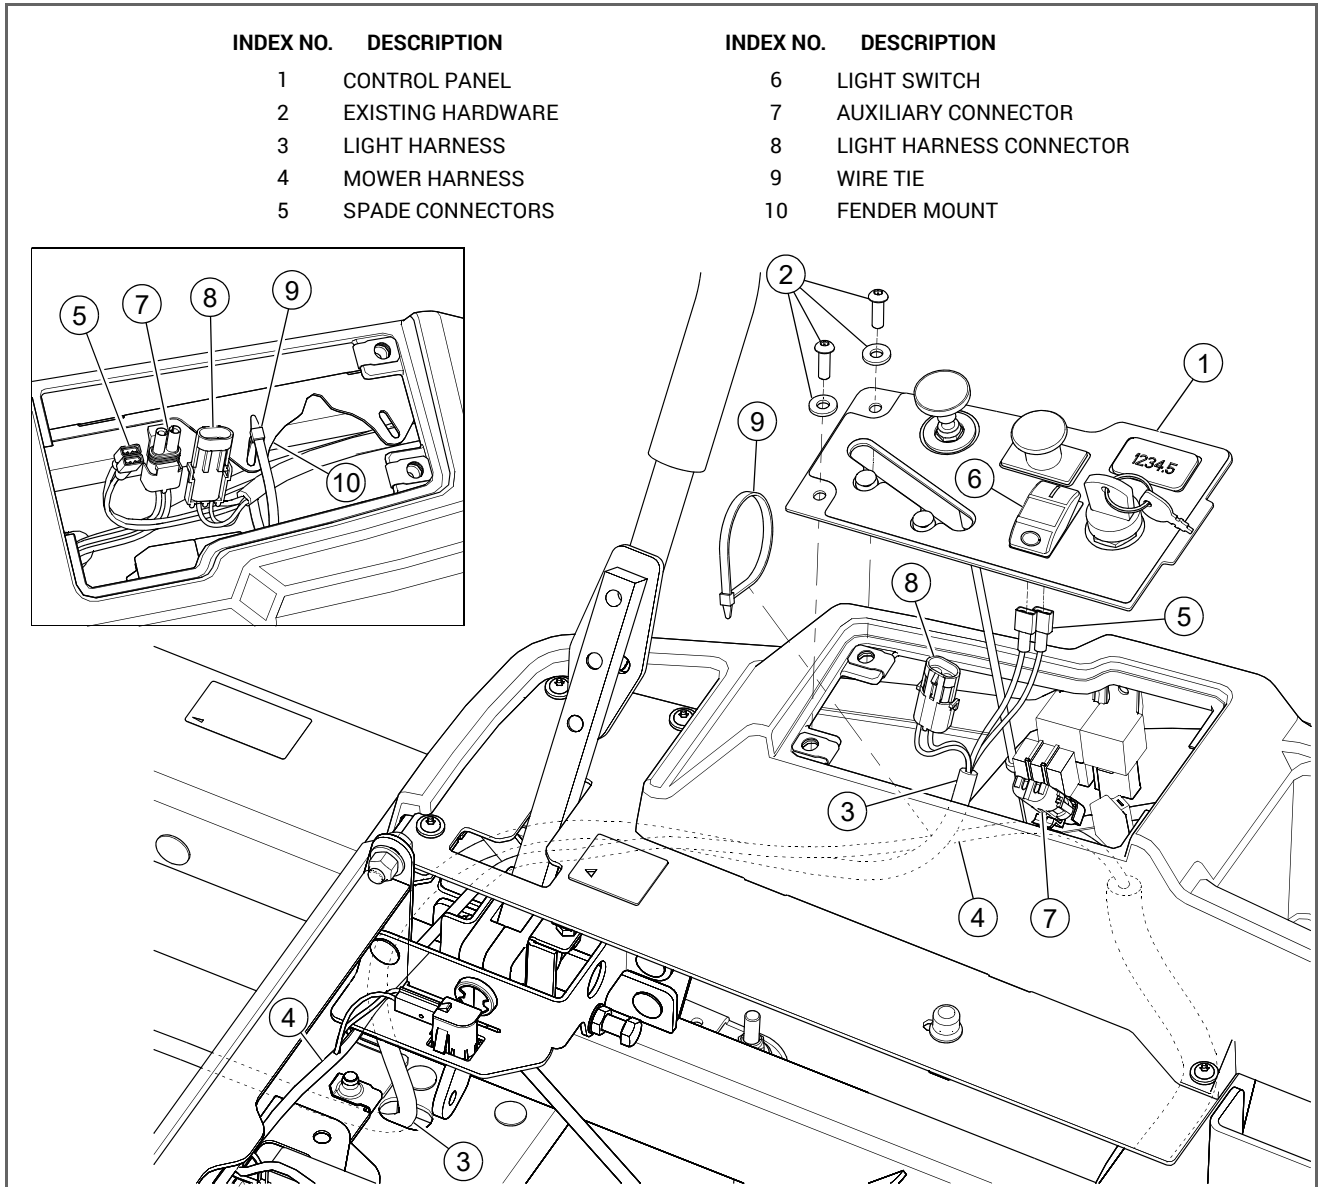

FIG. 7
11. Route the light harness along the mower harness to the underneath side of the control panel. FIG. 7
12. Attach the two spade connectors to the bottom of the light switch. FIG. 7
13. Locate the mower harness auxiliary plug under the control panel and remove the connector plug. Attach the light harness connector to the auxiliary connector. FIG. 7
14. Secure the light harness and the mower harness with a wire tie to the fender mount as shown. Attach the control panel with the existing hardware. FIG. 7